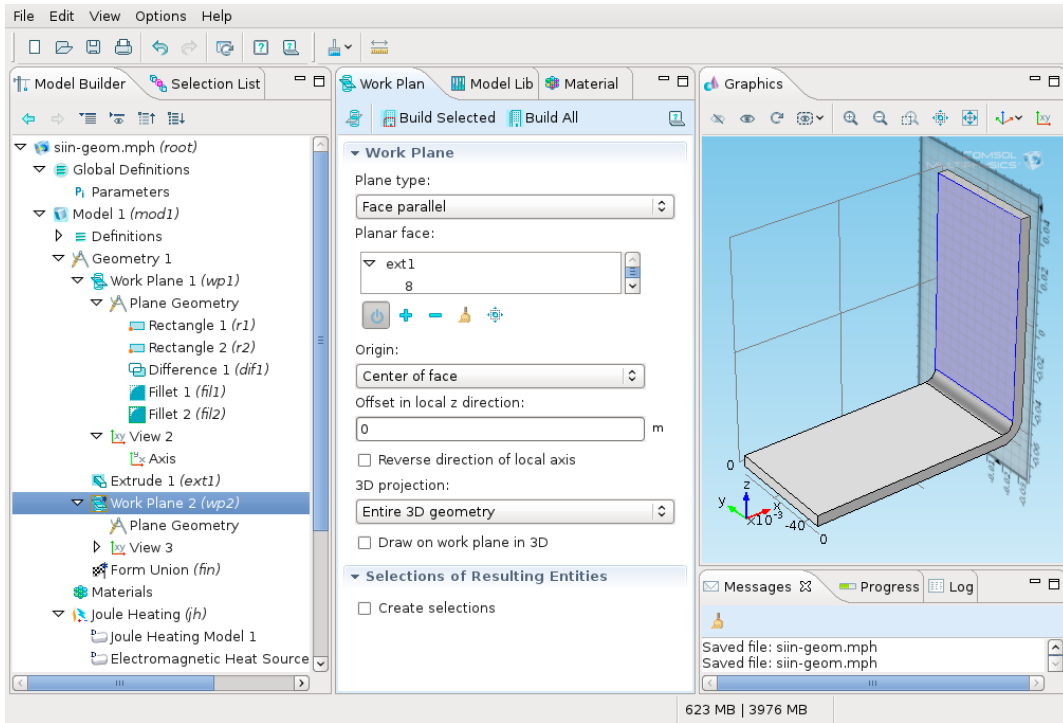

Figure 21: Work plane of the titan polts.
**Work Plane** → **Plane Type = Face parallel** (Fig. 21).